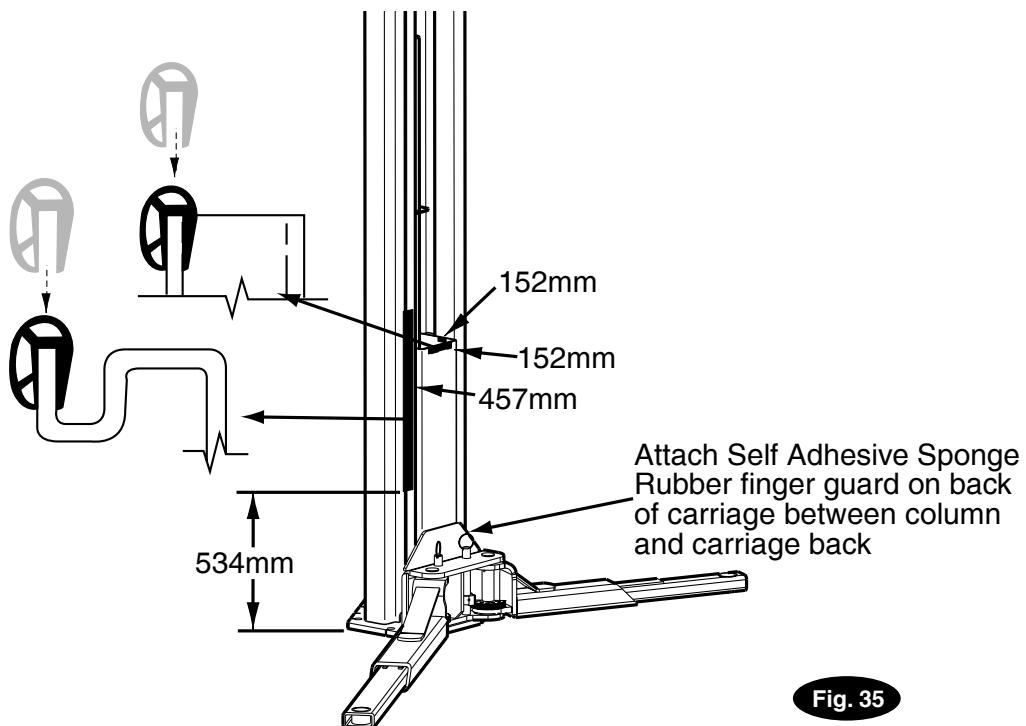

Fig. 35
1. Press 457mm bumper on column edge, Fig. 35.
2. Press 152mm bumper on top front edge and top side of carriage tube, Fig. 35.
3. Press bumper back side of carriage between carriage and column as shown, Fig. 35.